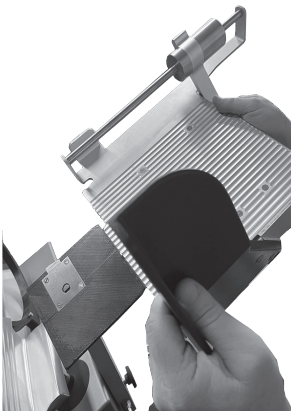

Figure 8-3.
1. Reinstall the carriage on the carriage arm (Figure 8-3).